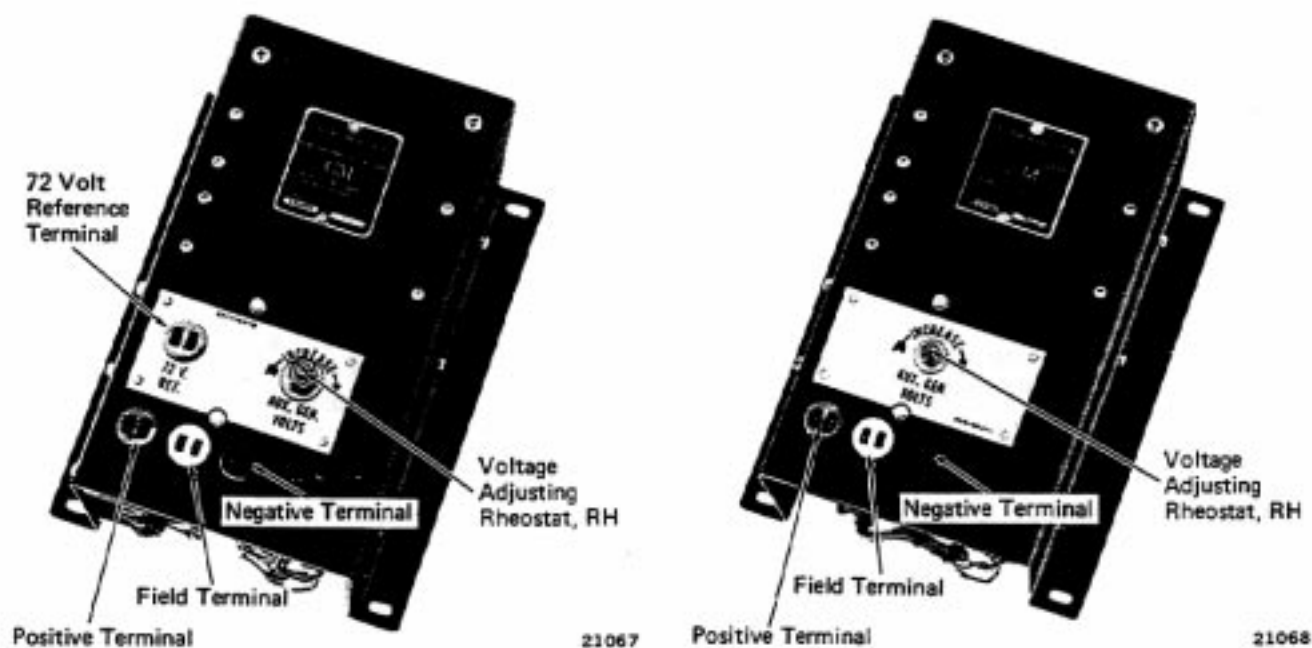

Fig. 1 - Static Voltage Regulators
This publication provides complete instructions for bench testing and repairing EMD Static Voltage Regulators, Fig. 1. Also included are instructions for calibrating the voltage regulator to obtain desired output voltage of the auxiliary generator. Categorized defects, drawings, schematics, wiring diagrams, and repair procedures are included to aid the technician in troubleshooting and repairing the voltage regulator.
1. Using a battery test light, connect positive lead to positive terminal P on front of voltage regulator and negative lead to field terminal F, Fig. 1. Refer to Service Data for test components.
4. Turn voltage adjusting rheostat RH, Fig. 1, for minimum resistance (full travel counter-clockwise from front).